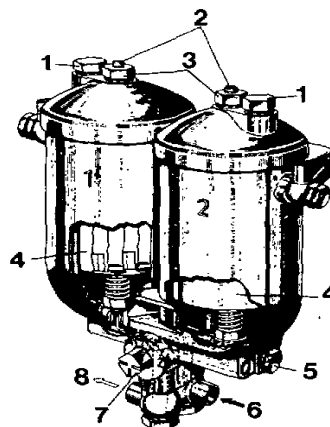
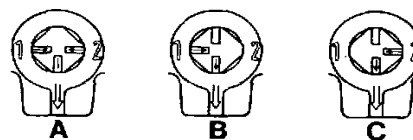

Fig. 146. Switch-over type fuel filters
Fig. 147. Positions for three-way cock, switch-over type fuel filters
- Turn the three-way cock (7, fig. 146) to position C, fig. 147.
- Open the venting screw (2) on the filter housing No. 1. Unscrew the draining plug (5) on the same container and drain the fuel into a collecting vessel.
- Unscrew the centre nut (3) and remove the cover. Lift out the filter insert.
- Fit the cover with a new gasket. Loosen the filler plug (1) and fill the housing with diesel fuel. Screw tight the plug.
- Turn the cock to position A, Fig. 147 and allow the engine to run for a few minutes to vent the filter housing.